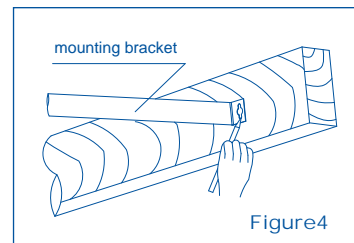

Figure 4
a) Position housing between joists and extend mounting brackets. Position brackets so that bottom edge of housing will be flush with suspended ceiling. Mark the top of keyhole on all four mounting brackets (Figure 4).